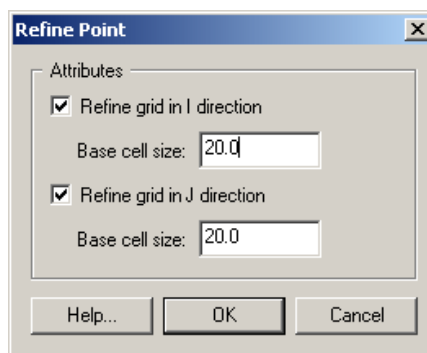

Figure 3. Refine point options.
5. Rt-click and click on *Attributes* (Figure 3), and set the base cell size for the area of the grid where the points are located.